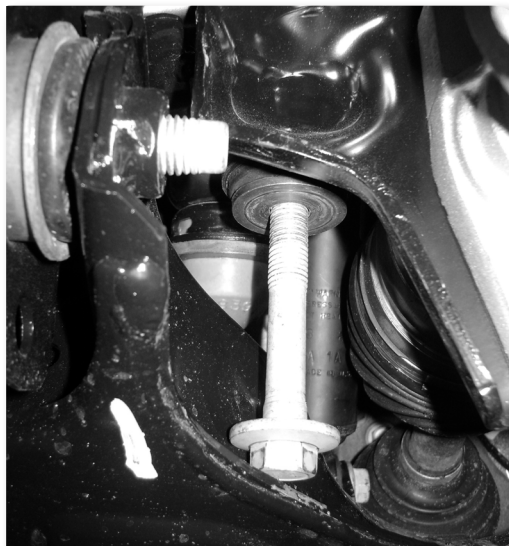

Figure 4 - Drivers Side Shown
13. Doing one side at a time, remove the 2 mounting bolts and lower the jack to allow enough clearance for the provided differential drop spacers. Figure 4